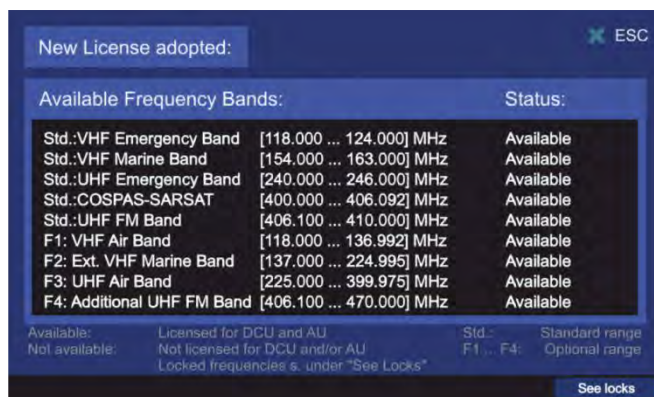

Figure 133. New license adopted
- After confirming the new valid license with “OK”, a dialog will be opened, which shows the licensed frequency bands (s. Figure 133).